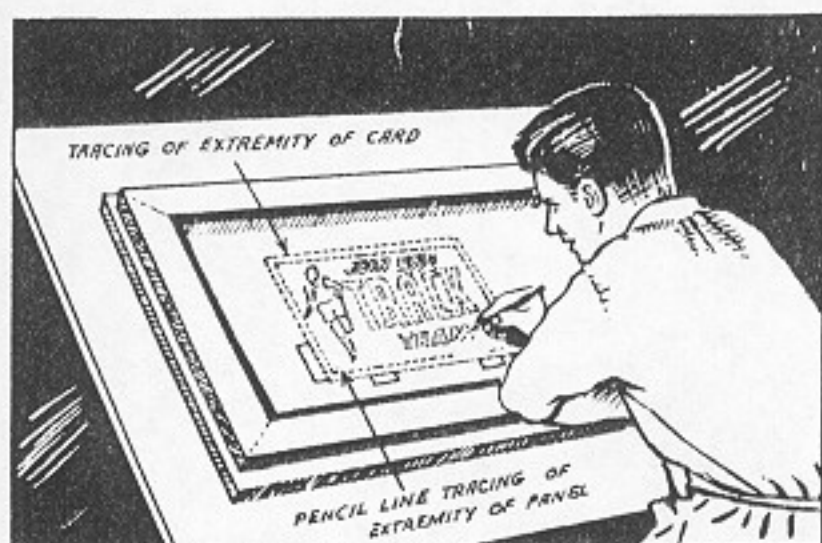

Fig. 104. Trace Design on Screen With Medium Hard Pencil
3. Lower the screen and make a tracing of the original lettering or design directly on the silk screen, Fig. 104. Use